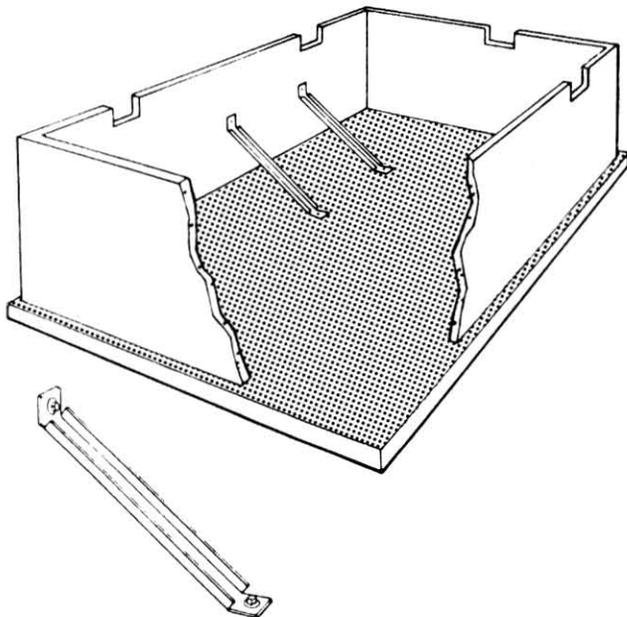

Figure 6-3
2. Apply shoring to help support long spans of basement wall. Shoring may be either emergency, removable, or permanent. (See Figure 6-3.) Shoring installations should be individually designed by a structural engineer for each basement.